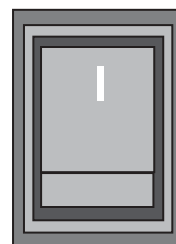

Fig. 2.1: ON position of the *POWER* switch
- 20 The *POWER* switch powers the PRO MIXER on. You should always make sure that the *POWER* switch is in the "Off" position when initially connecting the unit to the mains. When the switch is in its upper position ("1"), the VMX1000 is powered on (see fig. 2.1). When the switch is in its lower position, the unit is off.